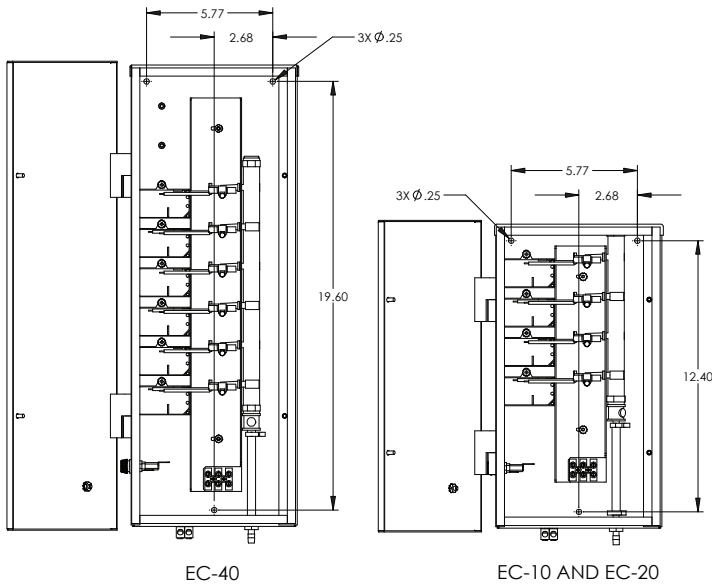

Figure 1: Mounting Hole Dimensions
- A pressure wire connector is provided on the outside of the unit, marked with to permit connection to a minimum No. 6 AWG (13.3 mm²) solid bonding conductor between this point and any metal equipment, metal enclosures of electrical equipment, metal water pipes, or conduit at least five (5) feet (1.5m) of the unit or as needed to comply with local requirements.
- Install at least 5 feet (1.5 meters) from wall of pool using nonmetallic tubing. Install ozone generator no less than one (1) foot above maximum water level to prevent water from contacting electrical equipment. Install in accordance with the installation instructions.
- The DEL Eclipse must be installed in an outdoor location, or indoors in a forced air ventilated room, and installed so that the orientation is exactly as shown in Figure 1. Install to provide water drainage of generator to protect electrical components.
near the top on the left and right and one located in the center near the bottom. Refer to Figure 1 for clarification.